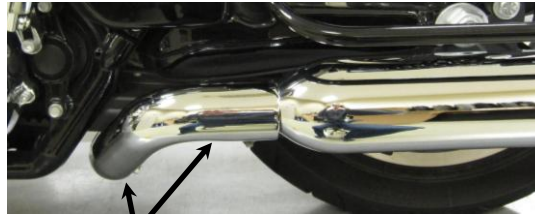

FIGURE 7
21. If the heatshields will not align properly with the collector heatshield then the collector heatshield may need to be loosened and moved forward or backward. Loosen the two button head bolts to adjust the collector heatshield forward or backward. See **FIGURE 7.**